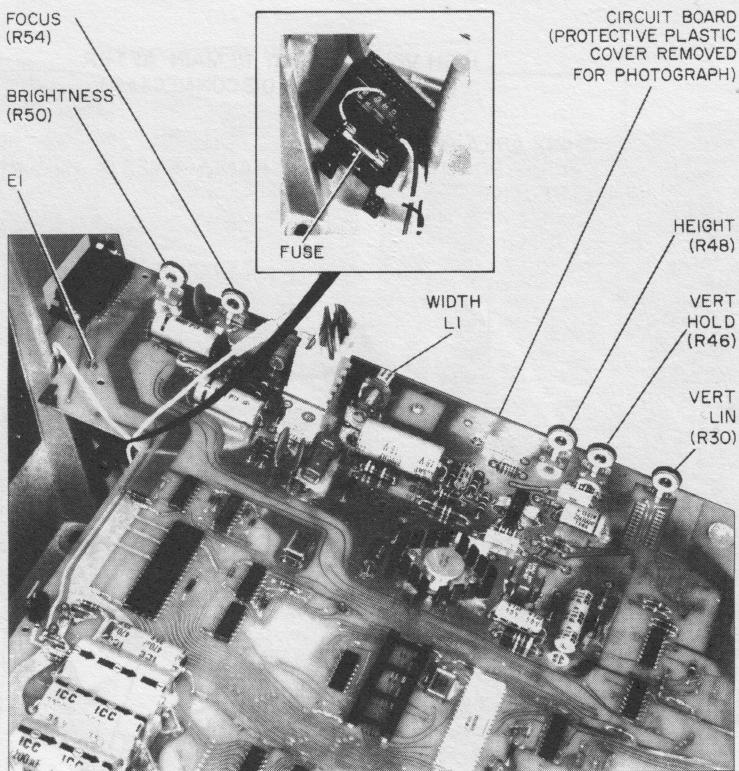

Figure 6-3. Location of Fuse and Adjustments
- d. The fuse is located on a bracket assembly at the right rear of the base (figure 6-3). It may be removed by pulling up by hand, or with a fuse puller tool available in most automotive shops.
- b. Disconnect connector P2 at the left rear of the circuit board (figure 6-3). This is done by squeezing the sides of the connector to release the latch and pulling straight up.
g. Connect the single green wire to terminal E1 (figure 6-3) by pressing the clip onto the terminal.